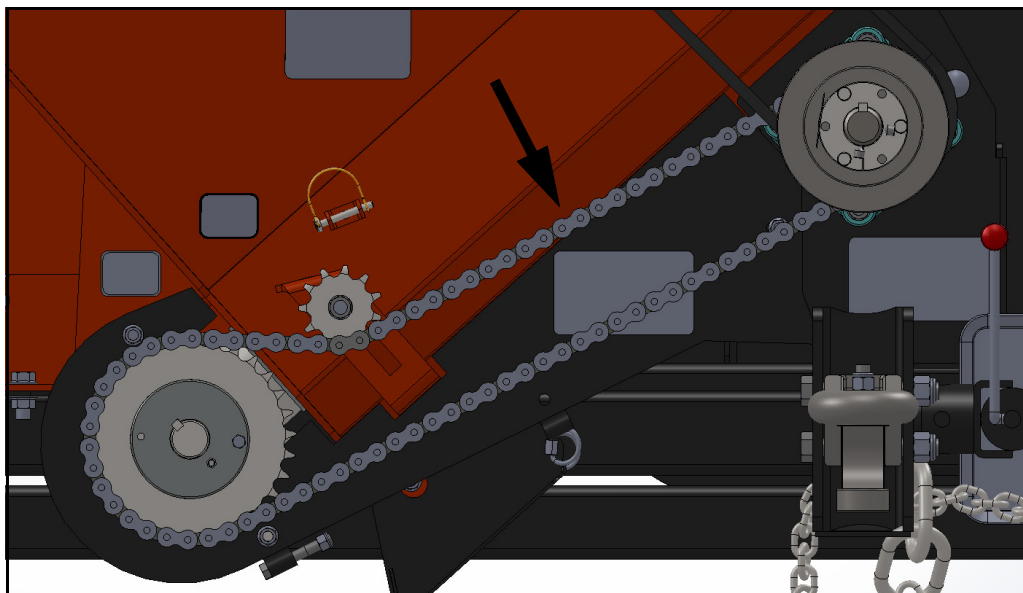

Figure 5.11 Auger Drive Chain Tension
To properly tension auger drive chain (see Figure 5.11), proceed as follows:
3. Apply pressure down on the idler against the chain until there is approximately 3/4" (19 mm) deflection of the chain in the middle of the span between the idler and the top driving sprocket (as shown by arrow in Figure 5.11).